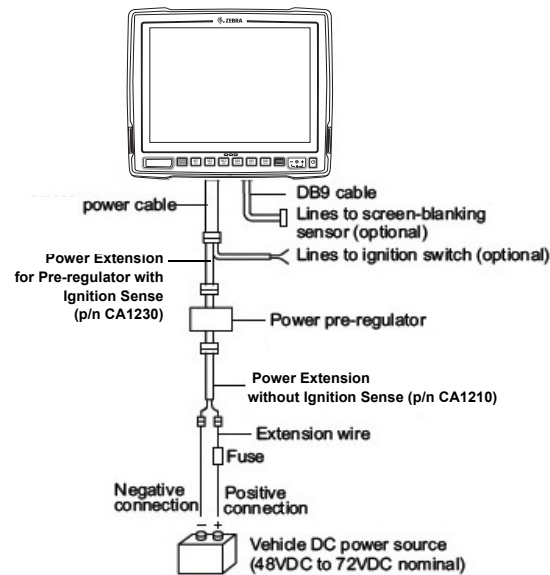

Figure 2-3 Connections To Vehicle DC Supply
2. Connect the pre-regulator cable female connector either directly to the VC80 power cable, or to the power extension cable. See Figure 2-3.